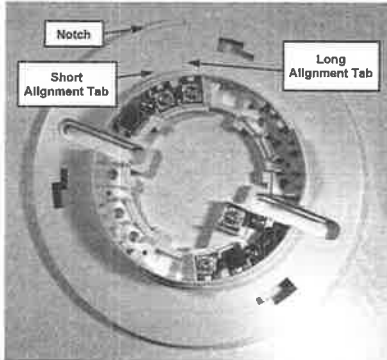
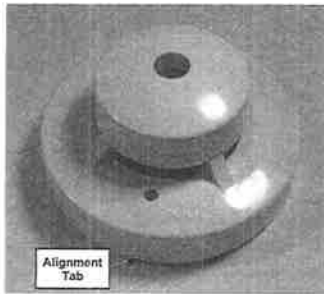
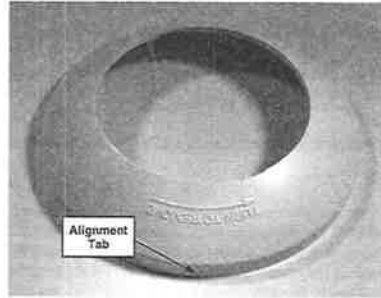

Fig. 2. FW-2SBASE
Fig. 3. FW-2SHEAD
Fig. 4. Trim Ring
Carefully remove the unit from its factory packaging. Examine the FW-2S to identify the *base*, *trim ring* and *detector head*. Closely examine the base and locate terminals 2 and 5. The trim ring and detector head are turned counter-clockwise to remove from the base. To ease installation, raised alignment tabs are impressed into the base, trim ring and detector head; take a moment to find these alignment tabs (see Figs. 2 - 4).
1. Align the detector head *Alignment Tab* shown in Fig. 3 with the *Short Alignment Tab* shown in Fig. 2.
2. Mate the detector head onto the base and twist clockwise until it securely locks into place. The detector head *Alignment Tab* shown in Fig. 3 must align with the *Long Alignment Tab* shown in Fig. 2.
1. Align the trim ring *Alignment Tab* shown in Fig. 4 anywhere within the *Notch* shown in Fig. 2.